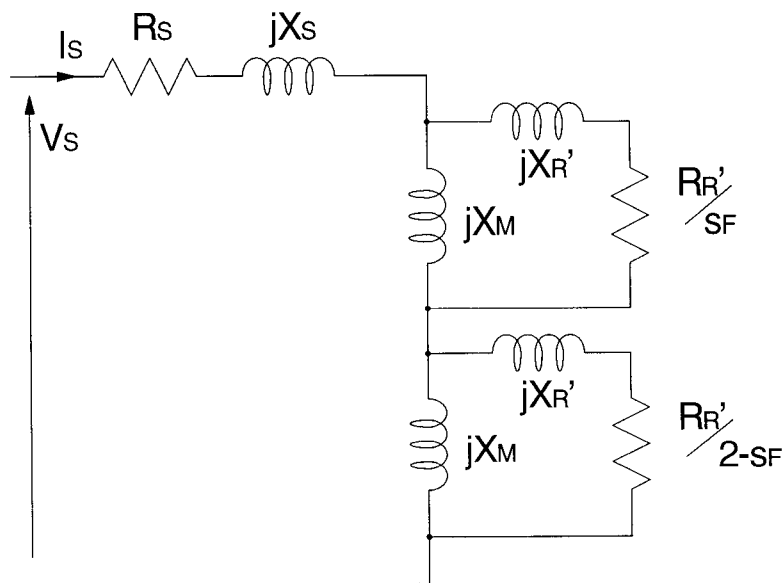

Figure 2.1
- (c) Figure 2.1 shows the equivalent circuit of the main winding of a single-phase induction machine in which s_F is the slip with respect to the forward field. The parameters of the machine are: